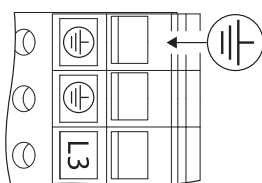

Fig. 26: Additional earthing
- Due to the increased discharge current in motors from 11 kW upwards, it is also necessary to connect heavy-duty earthing in acc. with EN 61800-5-1:2008-04 (see Fig. 26).